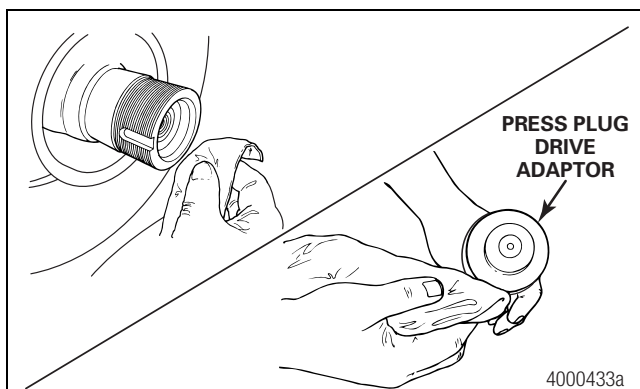

Figure 2.26
20. Wipe off all retaining compound residue from the spindle and press plug drive adaptor. Figure 2.26.